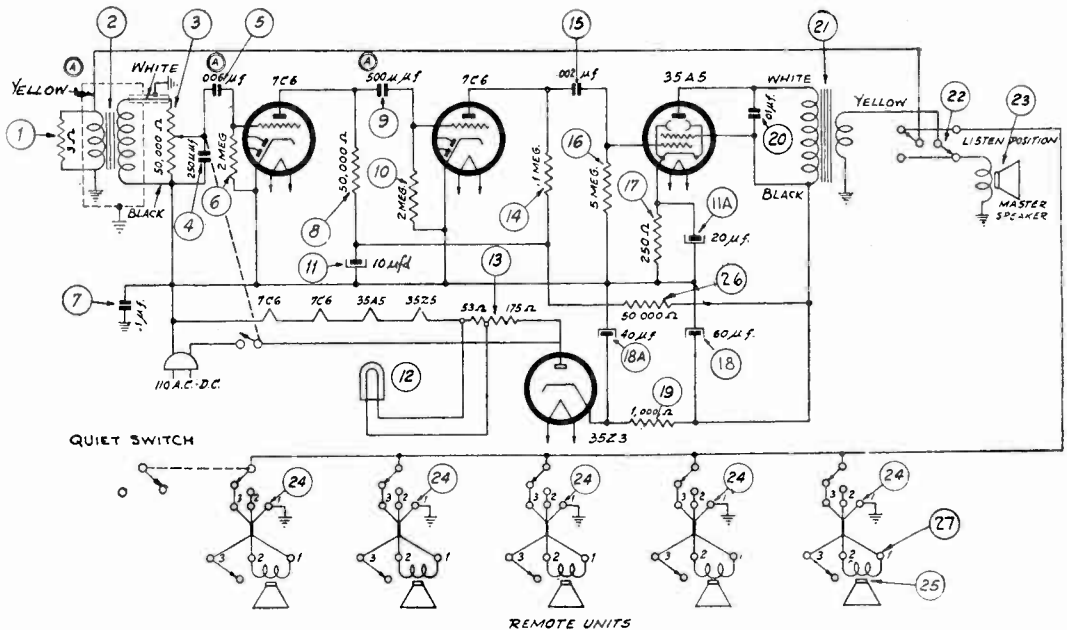

Fig. 2
The diagram of the Model 908 Philcophone is shown in Fig. 2. The set consists of a three-stage amplifier and built-in power supply. Between two and six loudspeakers can be used, one at the master station and one at each of the five remote stations. Three-wire cables connect push-button switch 24 in the master station to each of the remote units. (The cable terminals are numbered 1, 2 and 3 respectively at each end.)
Fig. 2—(A) Low-priced crystal cutters are made with one "twister" (shear) plate, as at left. Higher fidelity, greater amplitude range and smaller temperature variation result from cementing two plates together to form "bimorph" element, at right. Foil or graphite electrodes are used to provide electrical connections to plates.